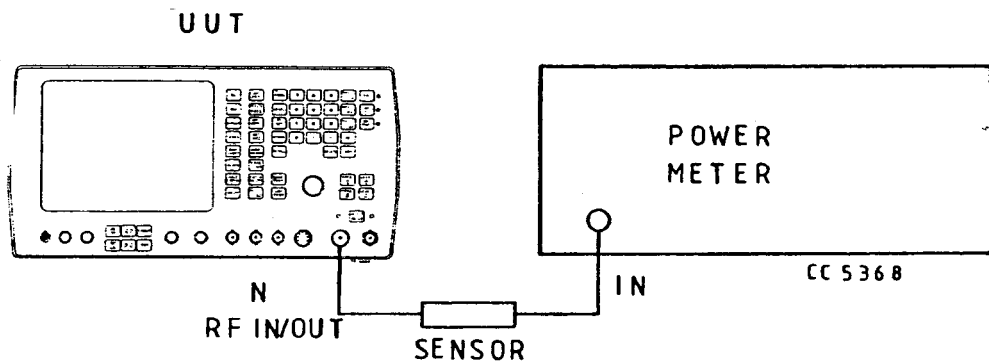

Fig. 43 Test equipment connections for adjusting R32 on AB6
- 1) Connect the equipment shown in Fig. 43 via a high-sensitivity head (-20 to -65 dBm).
- (2) Set the u.u.t. to RX, r.f. generator frequency 300 MHz, level -20.5 dBm, increment 1 dB, modulation off, N-type socket.
- (3) Adjust R32 for an indication on the power meter of -20.5
- (4) Using the decrement key, decrement in 1 dB steps to -30.5 dBm while checking each step level on the power meter.
- (5) If these levels are correct, the software correction for the fine attenuator need not be carried out.
- (6) If these levels are incorrect, the electronic fine attenuator will have to be recalibrated as given below.